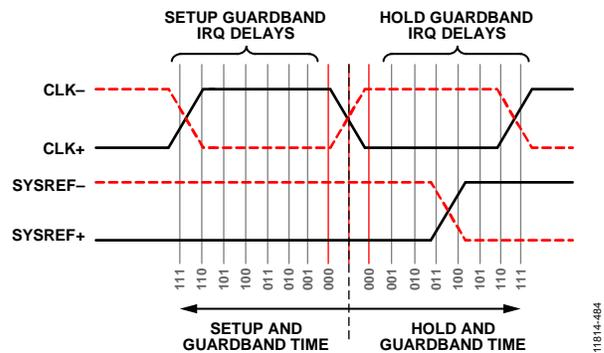

Figure 79. SYSREF± Edge Falls Within the Guardbanded Hold Time Window and Triggers an IRQ Error
In Figure 79, the SYSREF± edge misses the default setup and hold time of the clock, but would trigger an IRQ event only if certain hold time guardband delays were used. For this figure, all of the hold guardband delays that would place the SYSREF± crossing edge between it and the dotted black line would incur an IRQ event equal to 1. All other settings would be 0. Because there is no edge in the setup guardband delays, those would all be 0 if they were set.
**Table 22. IRQ Outcomes for All Setup or Hold Guardband Settings Using the Case in Figure 79**